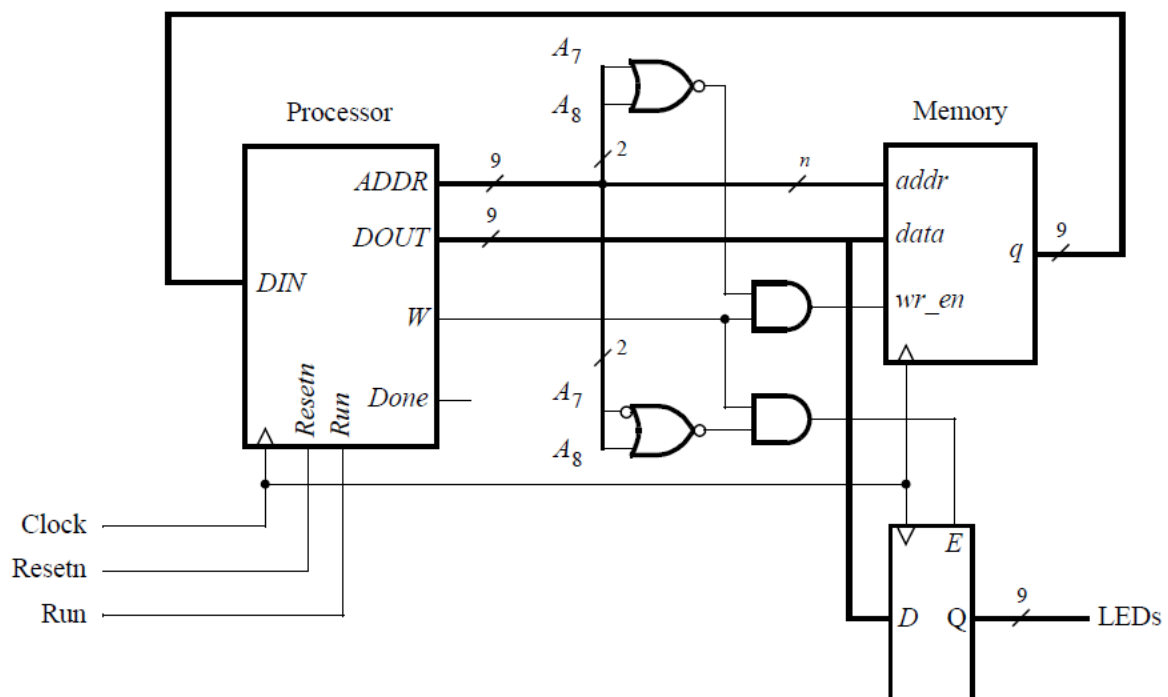

Figure 4. Connecting the enhanced processor to a memory and output register.
Figure 4 illustrates how the enhanced processor is connected to memory and other devices. The memory unit in the figure supports both read and write operations and therefore has both address and data inputs, as well as a write enable input. The memory also has a clock input, because the address, data, and write enable inputs must be loaded into the memory on an active clock edge. This type of memory unit is usually called a *synchronous random access memory* (synchronous RAM). Figure 4 also includes a 9-bit register that can be used to store data from the processor; this register might be connected to a set of LEDs to allow display of data on the DE1 board. To allow the processor to select either the memory unit or register when performing a write operation, the circuit includes some logic gates that perform *address decoding*: if the upper address lines are $A_8A_7 = 00$, then the memory module will be written at the address given on the lower address lines. Figure 4 shows n lower address lines connected to the memory; for this exercise a memory with 128 words is probably sufficient, which implies that $n = 7$ and the memory address port is driven by $A_6 \dots A_0$. For addresses in which $A_8A_7 = 01$, the data written by the processor is loaded into the register whose outputs are called LEDs in Figure 4.
- b. Write VHDL code for the processor and test your circuit by using functional simulation: apply instructions to the DIN port and observe the internal processor signals as the instructions are executed. Pay careful attention to the timing of signals between your processor and external memory; account for the fact that the memory has registered input ports, as we discussed for Figure 4.
- c. Create another Vivado project that instantiates the processor, memory module, and register shown in Figure 4.